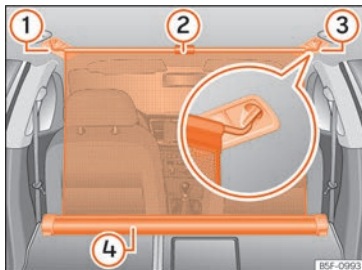

Fig. 160 In the luggage compartment: net partition hooked in place with the rear seat backs folded down.
- Pull up handle » **Fig. 160 ②** to remove the net from the casing » **Fig. 160 ④**.
- Hook in the net partition on the right side » **Fig. 160 ③** (magnified image).
- Hook in the net partition in the left side housing » **Fig. 160 ①** pulling the rod.
The net partition is properly assembled when the T-shaped ends are firmly secured in the corresponding housings » **Fig. 160 ③** and **①**.
- Roll up the net into the casing » **Fig. 160 ④** lowering it with your hand.